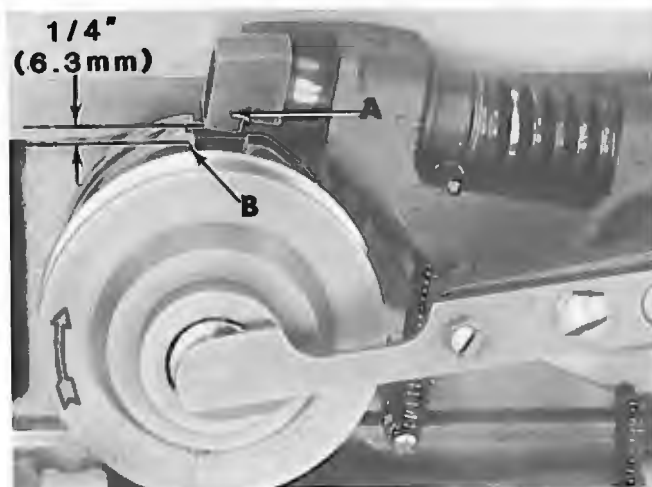
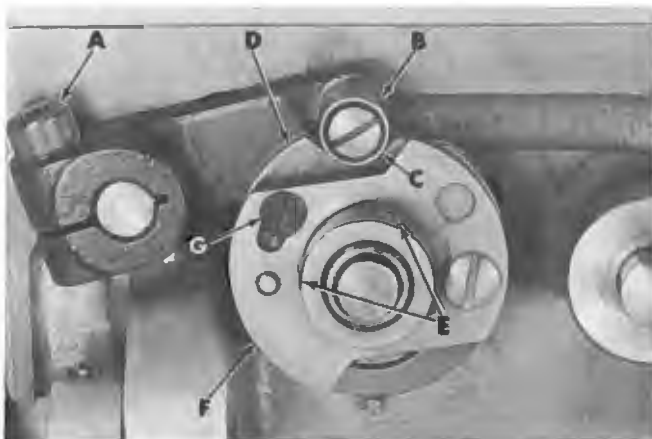
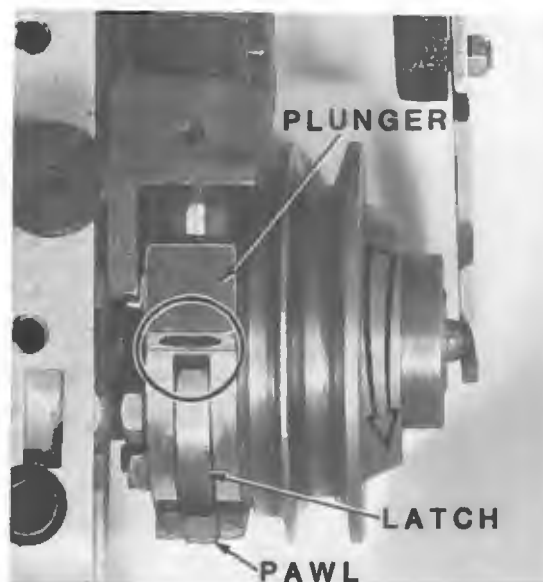

Fig. 18
Fig. 19
Fig. 20
The cycling mechanism consists of the stop motion plunger assembly, clutch assembly (Fig. 17), and the stop motion cam assembly (Fig. 19).
When the operating treadle is pressed downward the plunger assembly tilts moving the plunger head upward so that it releases the stop motion disc. Lever (B, Fig. 17) now presses the idler pulley against the clutch transferring the rotary motion to the shaft. During the stitching cycle, the stop motion cam (D, Fig. 19) holds the stop motion plunger and clutch in this position by means of a roller and lever affixed to the same shaft as the stop motion plunger assembly. At the completion of the cycle the roller drops into a recess in the cam (D, Fig. 19) allowing the clutch to disengage and the stop motion plunger to contact the vertical face of the stop motion disc. The cycle is now complete and the machine is in STOP POSITION.
Depress the treadle to engage machine into RUN POSITION. Rotate the pulley two complete revolutions in operating direction, then release the treadle. Measure the distance from the plunger head (A, Fig. 18) to the upper edge of the vertical face on the clutch disc (B). This distance should be 1/4 inch (6.3 mm).
Loosen clamp screw (A, Fig. 19) for the stop motion trip lever. Hold the lever down firmly so that roller (B) is against the cam then move the plunger (A, Fig. 18) up or down to the correct dimension. Tighten clamp screw (A, Fig. 19) securely.
Machine is in STOP POSITION. Rotate the stop motion disc in the reverse direction so that the vertical face moves away from the plunger head, approximately 1/4 revolution. Stop at a point where the plunger head is located at the edge of the cut-out for the pawl (See Fig. 20). The plunger head should now be in contact with the stop motion disc. The right stop motion cam (D, Fig. 19) should be in position so that the front of the recess on the cam is touching the roller at point (C).
Loosen set screws (E, Fig. 19). With the plunger head positioned as described in "Check", rotate the cam in operating direction so the front edge of the recess contacts the roller. Tighten screws (E).
Machine is in STOP POSITION. Cam (F, Fig. 19) is set at the factory so the roller will drop into the recess at the earliest possible time relative to the stop motion cam (inner cam) setting. Should the impact noise of the machine stopping increase after considerable use, the soft stop cam requires adjustment.
Loosen screws (E, Fig. 19) and screw (G). Slightly advance the outer cam (F) by rotating clockwise. Tighten screw (G). Now repeat the stop motion cam (inner cam) adjustments, described earlier.